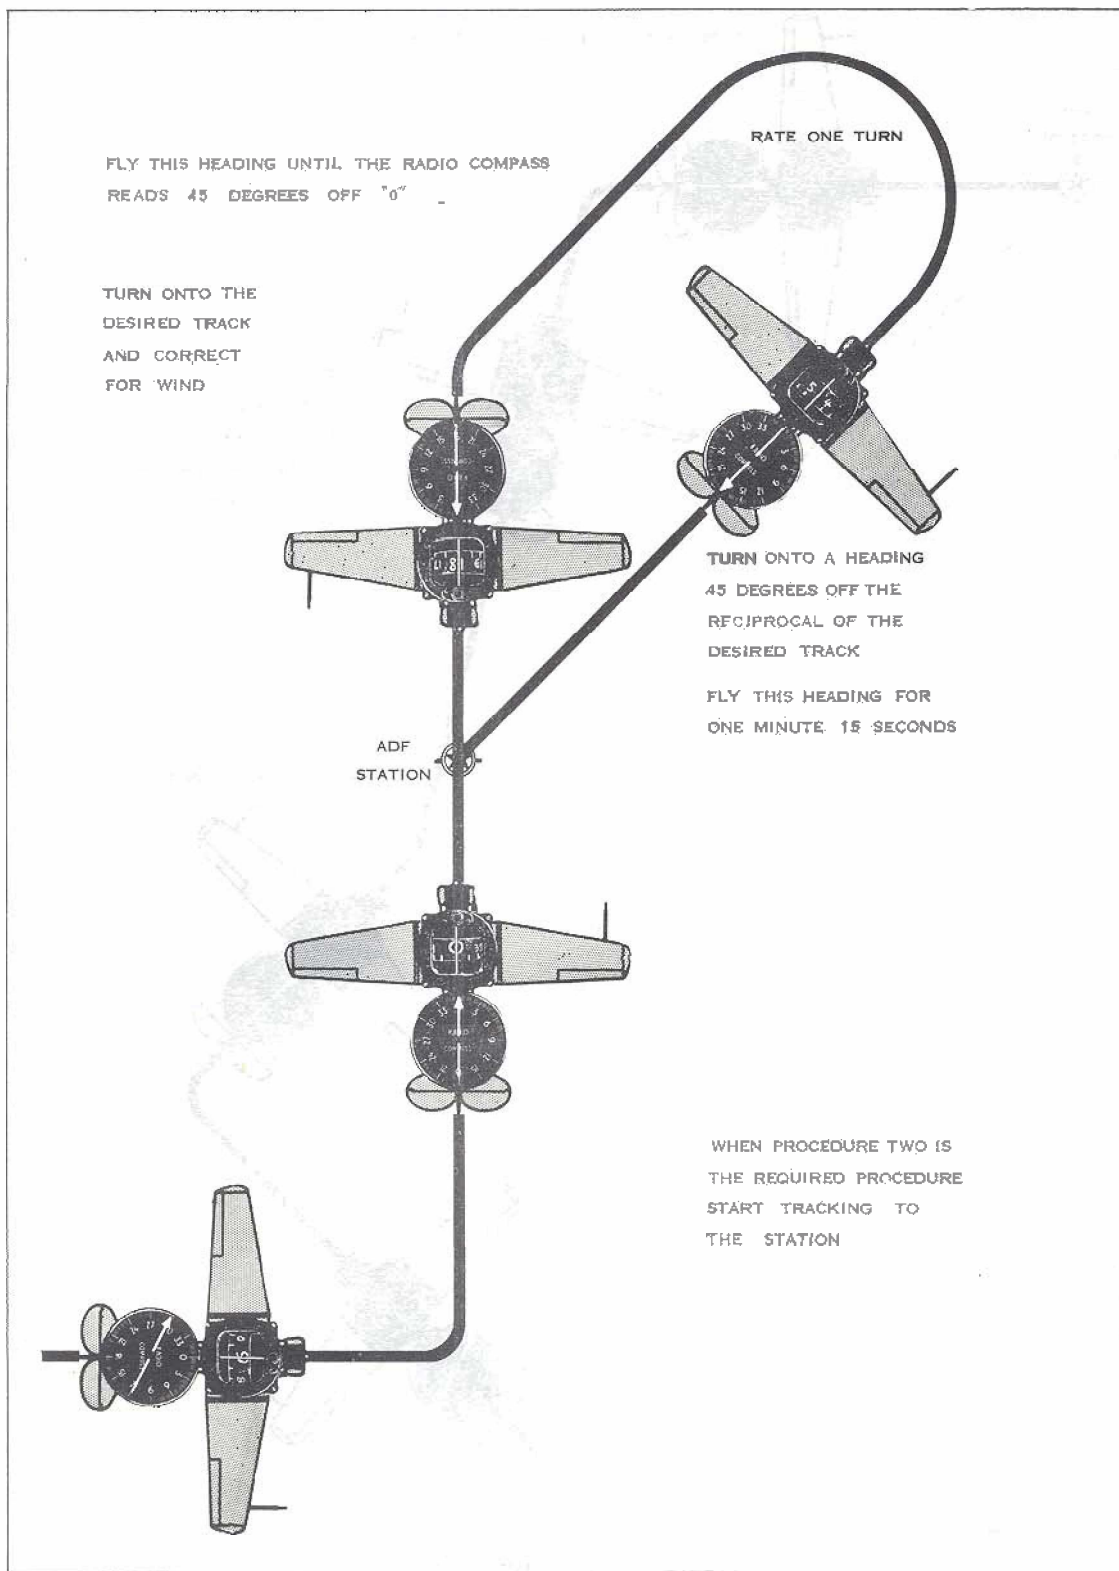

Figure 4: Procedure Two
- (b) on receipt of "Station Passage", turn onto the closest heading which is 45 degrees off the reciprocal of the required track, the turn being made the shortest way round, (Figure 4 opposite);